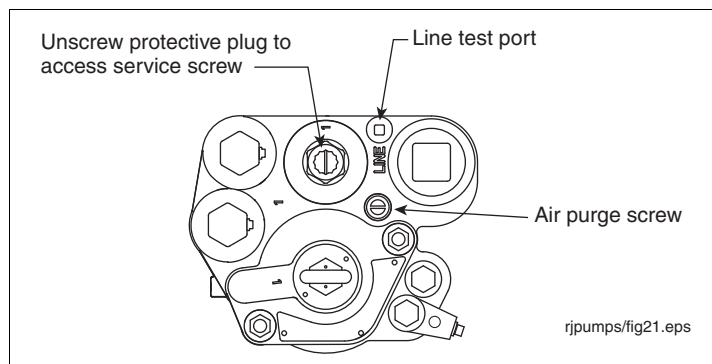

Figure 24. Service Screw, Line Test Port, And Air Purge Screw Locations
3. Remove line test port plug (see Figure 24). Apply line test pressure at line test port (50 psi [345 kPa] maximum).
6. Turn the air purge screw 2 - 3 turns counterclockwise (see Figure 24).
1. Remove and retain the protective plug over service screw and turn the screw clockwise (see Figure 24). As the screw approaches its bottom position, you will hear the system depressurizing. Continue turning the screw until it can go no further.
5. Turn the air purge screw 2 - 3 turns counterclockwise (see Figure 24).